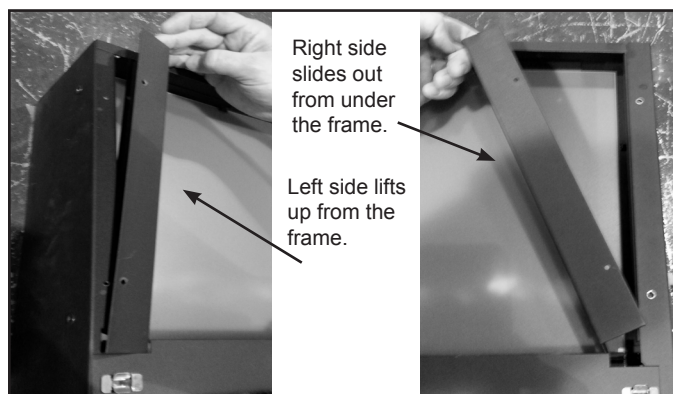

Figure 5 Side Bracket Removal
6. Remove the side brackets on the appliance. See Figure 5.